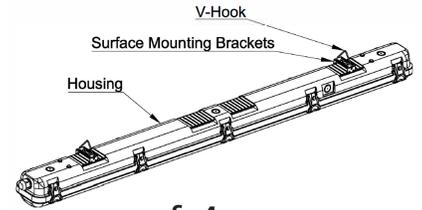

fig 4
1. Secure the Surface Mounting Brackets to the Housing as shown in Fig 4.
2. Loop the V-Hook on the Surface Mounting Bracket as shown in Fig 4.
3. To suspend the Housing, connect each V-Hook to two equal lengths of the chain (not included) and/or appropriate hardware suitable for the mounting surface. The Chains must be suitable to support four (4) times the weight of the fixture.